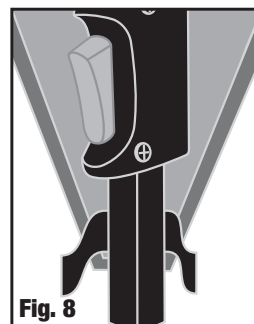

Fig. 8
- Secure shelter to each frame poles with nylon fasteners. (Fig. 8)